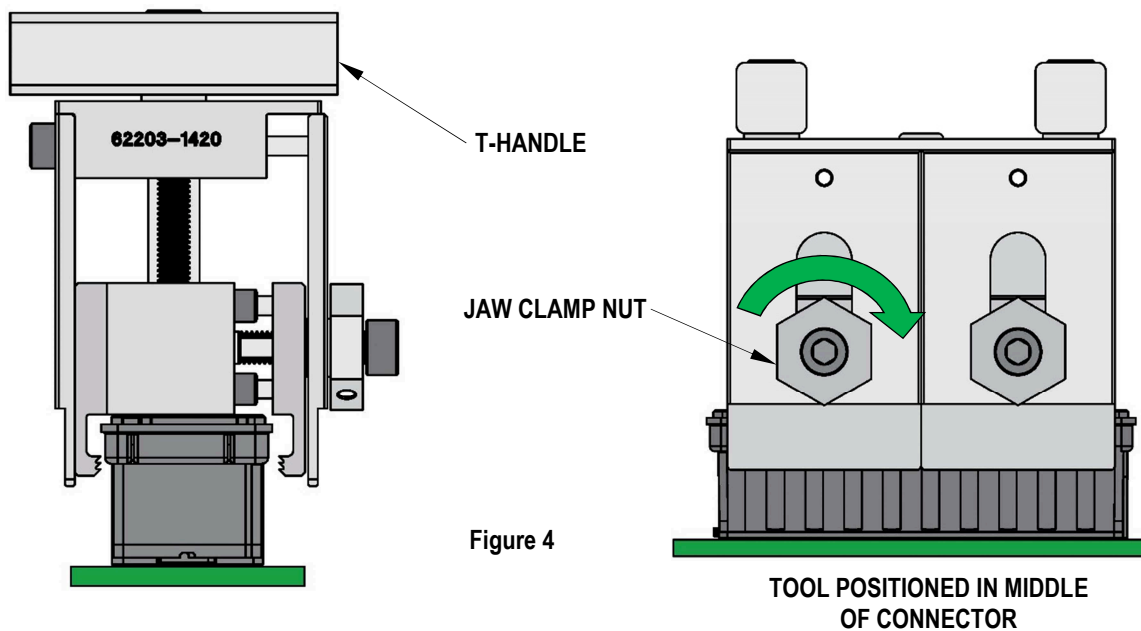

Figure 4
- Slide the Lifting Jaws down by pushing downward on the T-Handles until the T-Handles are resting on top of the Removal Tool. See Figure 4.
- Place the opened jaws on top of the connector housing, approximately in the middle of the connector's length, and start to close the jaws by turning each Jaw Clamp Nut clockwise by hand. See Figure 4.